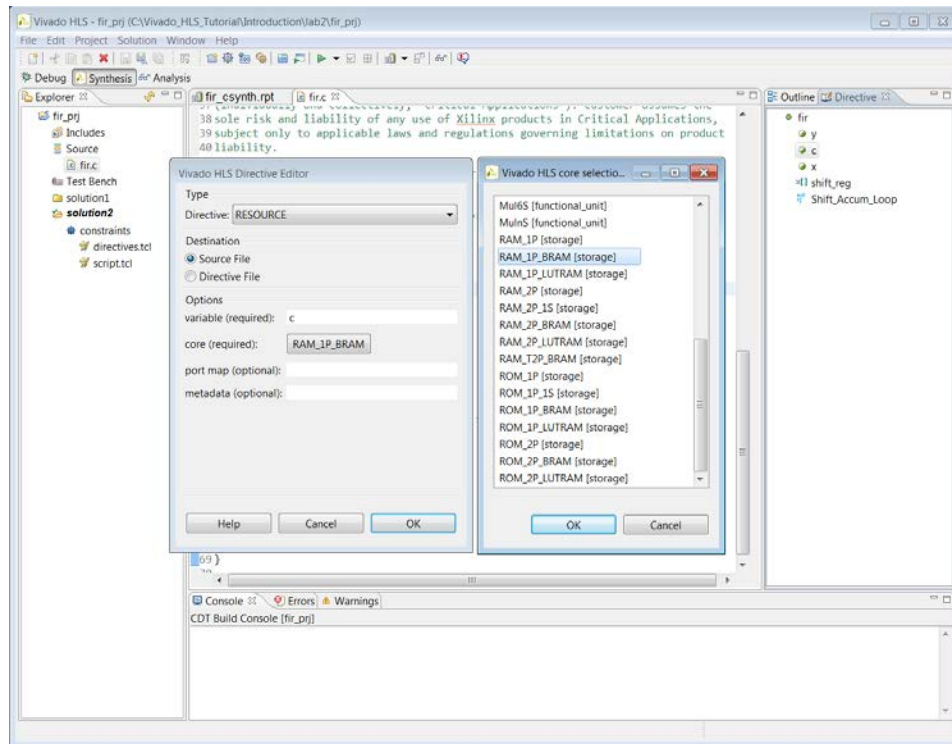

Figure 23: Adding a Resource Directive
- c. Select **RAM_1P_BRAM**, as shown in **Figure 23**.